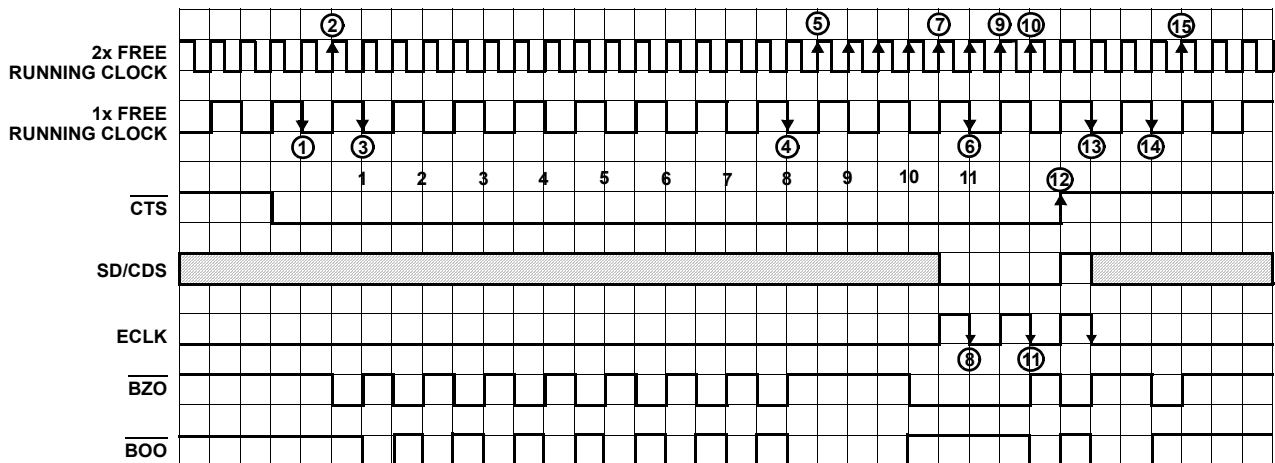

FIGURE 4. ENCODER INPUT TO OUTPUT TIMING DIAGRAM
Figure 4 illustrates the operation of the HD-6409 encoder section. The encoder operates with 1x and 2x free running clock signals taken from the 16x or 32x oscillator clock from the Divide-by-X circuit. The encoder outputs $\overline{B00}$ and $\overline{BZ0}$ will both remain high and ECLK will remain low while \overline{CTS} is not asserted. The encoder cycle begins when the \overline{CTS} control line is toggled to a '0' state. The next falling edge of the 1x clock ① latches the \overline{CTS} signal. The next rising edge of the 2x clock ② outputs the following: